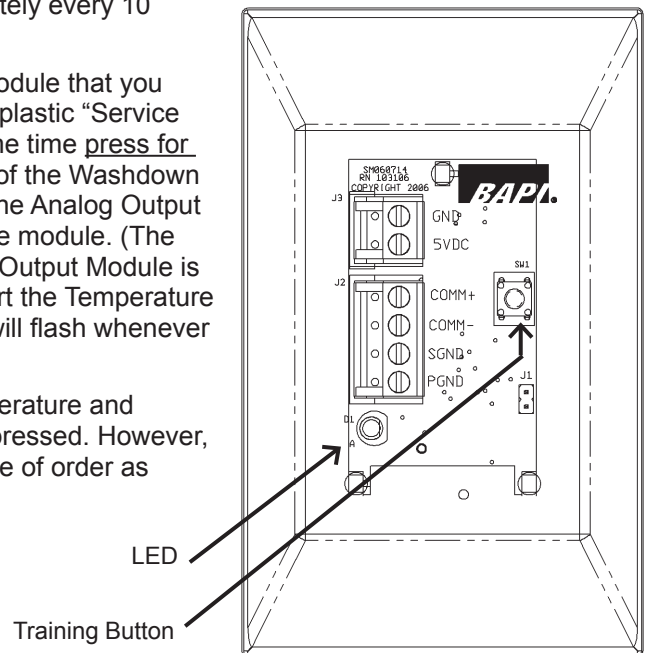

Fig 7: Back of Washdown Wall Plate Unit
4. Pick a Washdown Wall Plate Unit and an Analog Output Module that you want to train to recognize one another. Press and hold the plastic “Service Button” on the top of the Analog Output Module, at the same time press for one second and release the “Training Button” on the back of the Washdown Wall Plate Unit (See Fig. 7). When the LED on the top of the Analog Output Module lights, release the “Service Button” on the top of the module. (The LED will go out when you release the button). This Analog Output Module is now trained to the Washdown Wall Plate Unit and will report the Temperature or Humidity information from it. The output module’s LED will flash whenever it receives an update from the Washdown Wall Plate Unit.